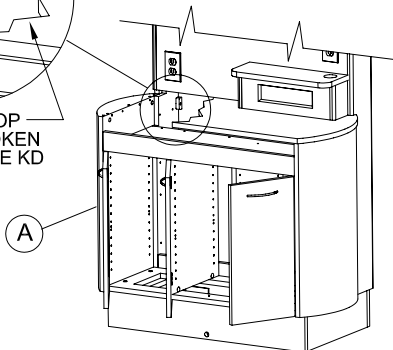

FIGURE 10C
Replace the back panel (D) to the cabinet base (A) by seating the back panel into the steel angle channel at the bottom of the rear opening. See Figure 10A. Tilt the top of the rear panel into position until the Keku fasteners snap together. See Figure 10B. Engage the 2 KD connectors by accessing the KD connectors from inside the lower cabinet. See Figure 10C.